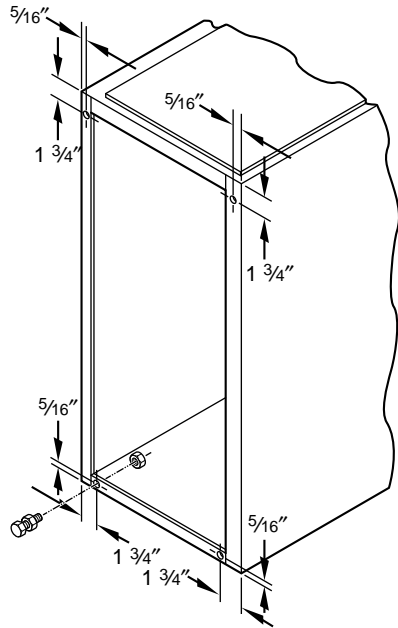

Fig. 12—Leveling Legs
When furnace is used in upflow position with side inlet(s), leveling legs may be desired. (See Fig. 12.) Install field-supplied, corrosion-resistant 5/16-in. machine bolts and nuts.
1. Position furnace on its back. Locate and drill a 5/16-in. diameter hole in each bottom corner of furnace. (See Fig. 12.) Holes in bottom closure panel may be used as guide locations.